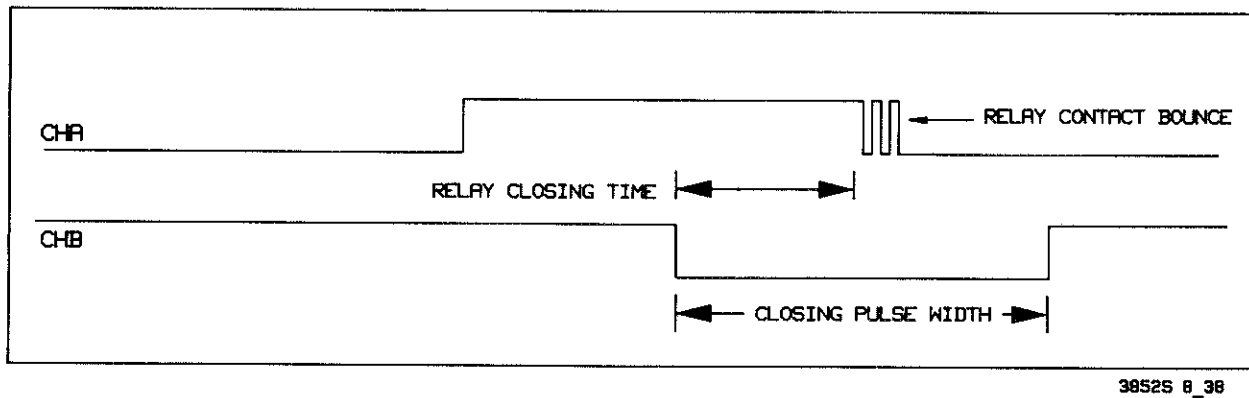

Figure 8-40 HP 44706A Closing Time
5. The CLOSING pulse is a negative pulse. The width of the negative pulse must be between 0.9 msec and 1.1 msec. If the pulse is not within these limits, the relay multiplexer is failing. The CLOSING pulse is shown in Figure 8-40. The waveform will exhibit a small amount of jitter caused by the operating system.
7. Rotate the DELAY SWEEP dial to the minimum position. Select the DELAYED sweep mode on the scope. Slowly rotate the DELAY SWEEP dial clockwise while observing the displayed waveforms. The Channel B waveform is the CLOSING pulse. The Channel A waveform is the +5V supply as switched by the relays. As the DELAY SWEEP dial is rotated, one relay closure and the associated CLOSING pulse will come in to view at a time. The relay closing time is the time between the falling edge of the CLOSING pulse (Channel B) and the falling edge of the Channel A waveform. This time must be less than 1.1 milliseconds. This time is illustrated in Figure 8-40. Note that there will be some relay bounce indicated on the Channel A waveform.